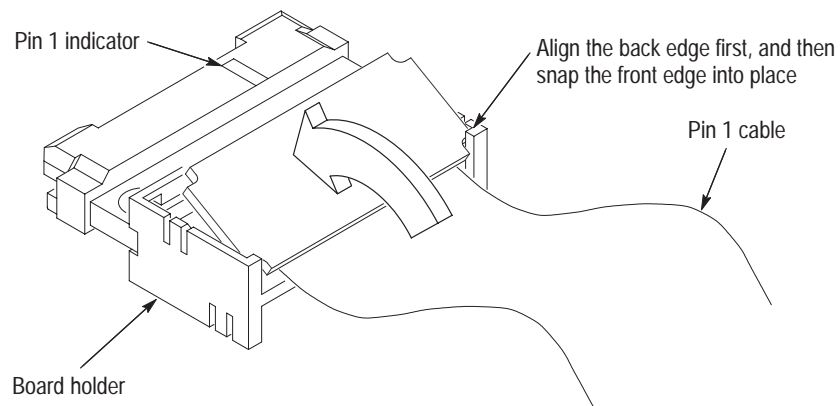

Figure 20: Positioning the circuit board in the probe
3. Lay the Mictor board assembly on a flat surface with the pin 1 side of the connector facing up. See Figure 20 for the correct orientation.
5. Place the circuit board attached to the pin 1 cable into the back (cable side) of the board holder as shown in Figure 20.